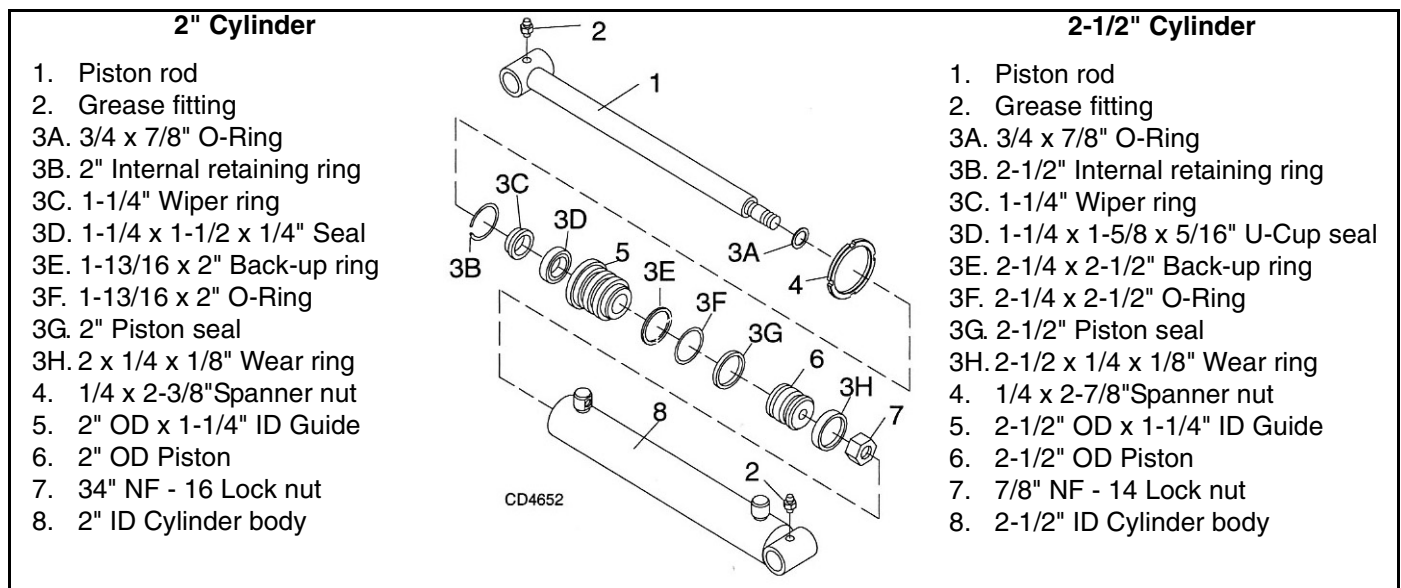

Figure 14. Spanner Nut Type Hydraulic Cylinder Assemblies
Boom, Dipperstick, Bucket & Stabilizer Cylinders (Figure 14)
On the 2" or 2-1/2" spanner nut type cylinders, Figure 14, unscrew spanner nut (4) using a spanner wrench, or carefully use a punch and hammer.